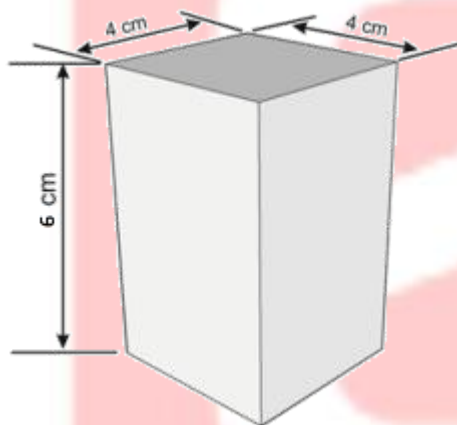

Figure 4A: Block Design
- Dimension of each block is 4cm x 4cm x 6cm as shown in Figure 4A. (If the Thermocol sheets of required dimensions are not available then the teams may cut or join the available sheets on their own)